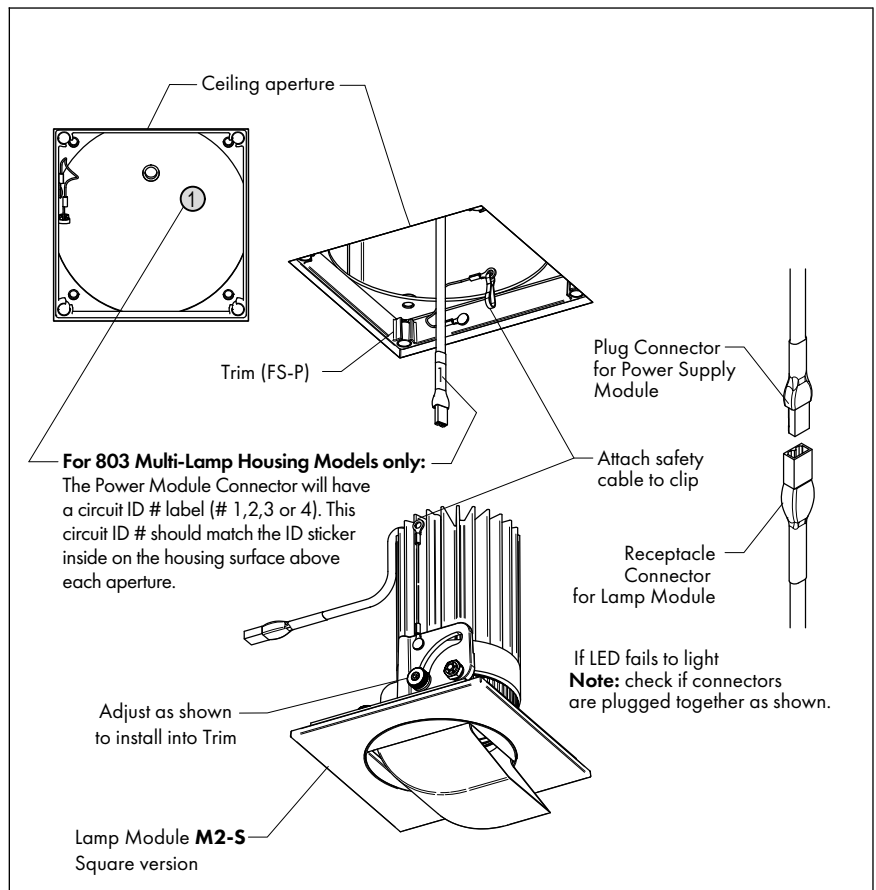

FIG 12.4 Securing Lamp Module to Housing & Trim
Step 3 Plug Wire Connector from Lamp Module into Power Supply Module Connector. Push wire up inside Housing to avoid interference during installation - **FIG 12.4**.